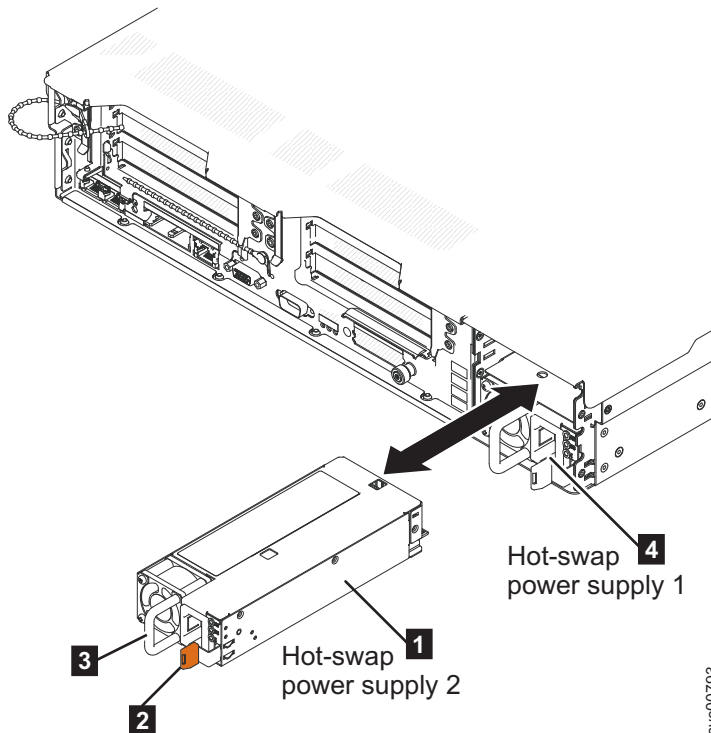

Figure 138. Removing the SAN Volume Controller 2145-DH8 power supply
5. Press and hold the release tab to the left; then, grasp the handle and pull the power supply out of the node, as shown in Figure 138.